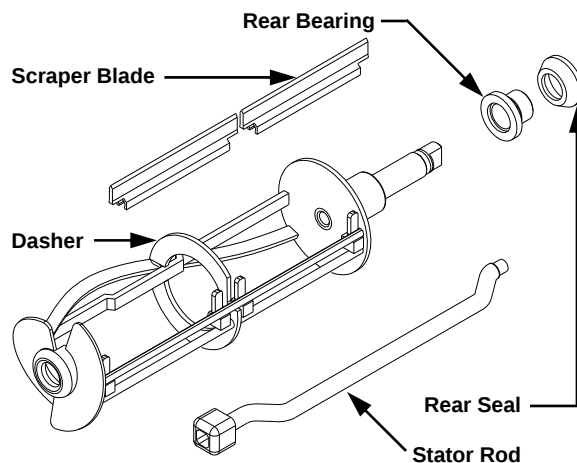
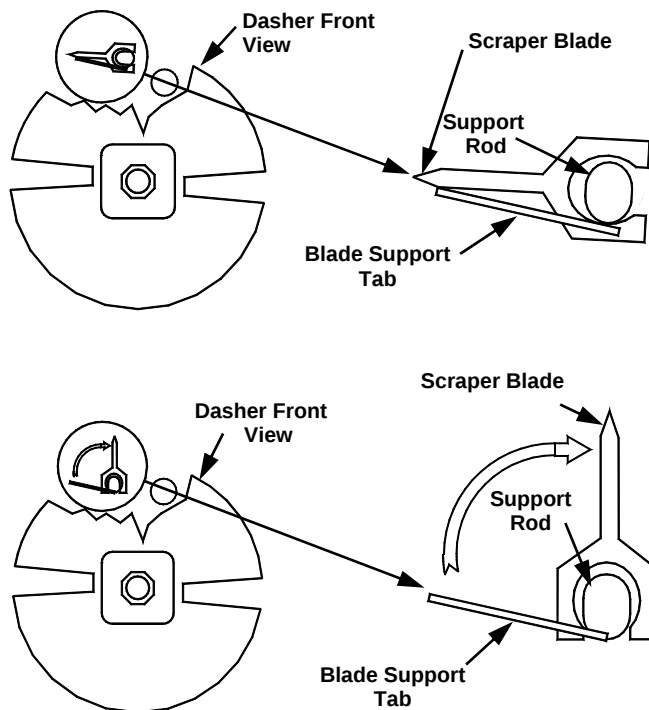

Fig. 16
Fig. 17
9. Remove the dasher assembly (Fig. 16) being careful not to damage the scraper blades, then disassemble in the following manner:
- c. Remove the blades from the dasher (Fig. 16) by first rotating blade upward (Fig. 17) and then